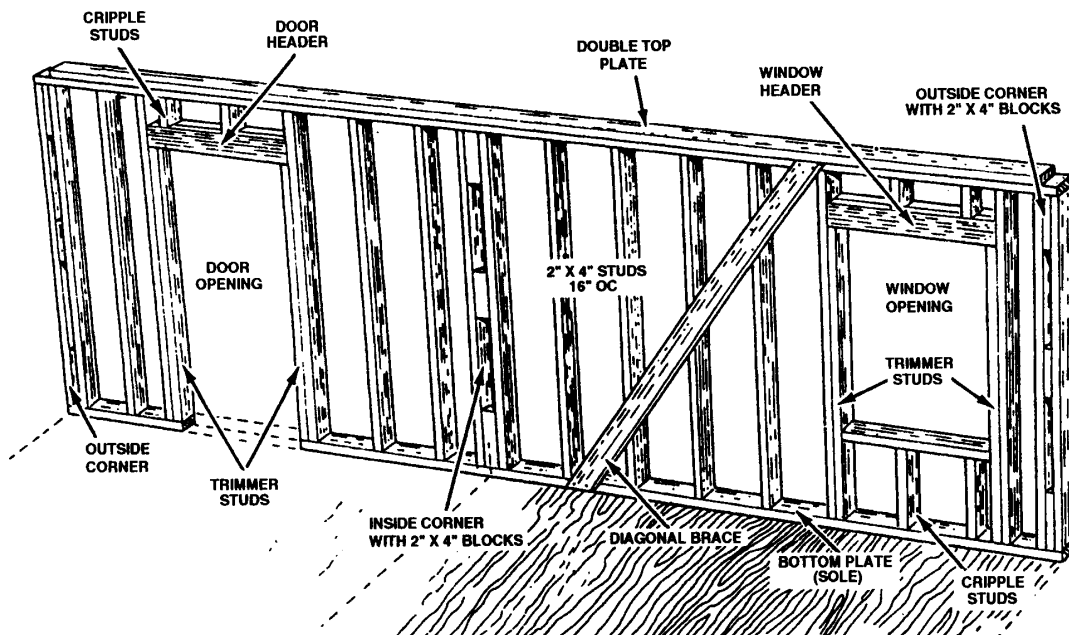

Figure 3, Wall Layout
**Step 7: Trimmer studs extend from the bottom plate to the bottom of the header and supports the end of the header (Figure 3).**